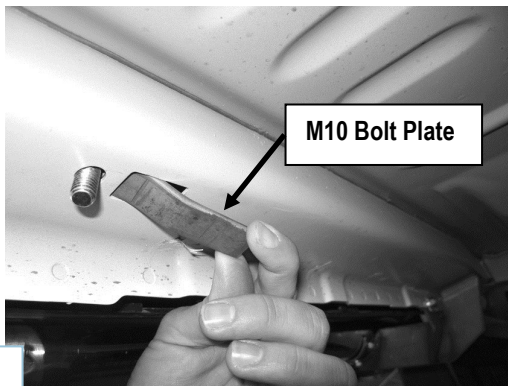

Fig 1
Start installation at the front passenger side of the vehicle. Insert (1) M10 Bolt Plate into the rectangular hole and out the round hole in the bottom of the side panel, (Fig 1).